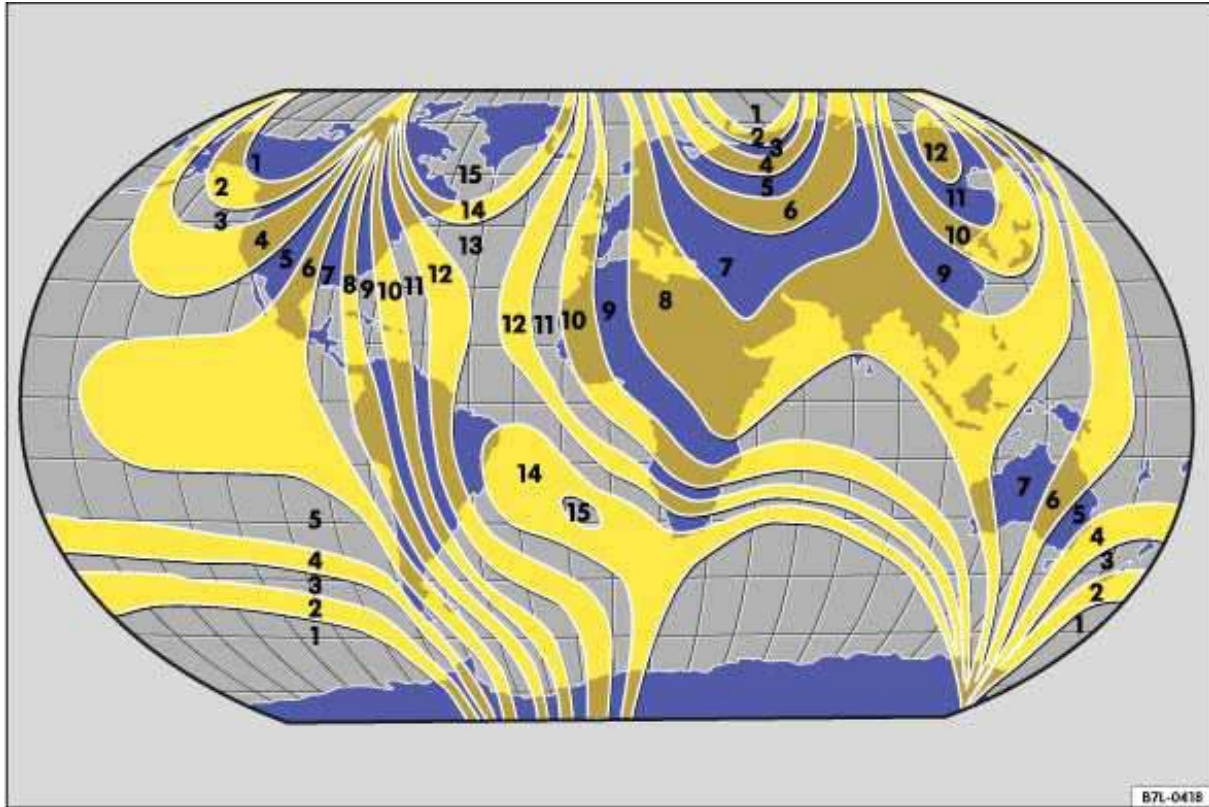

Fig. 14 Compass zones.
- Select the compass zone according to the current location ⇒ fig. 14.